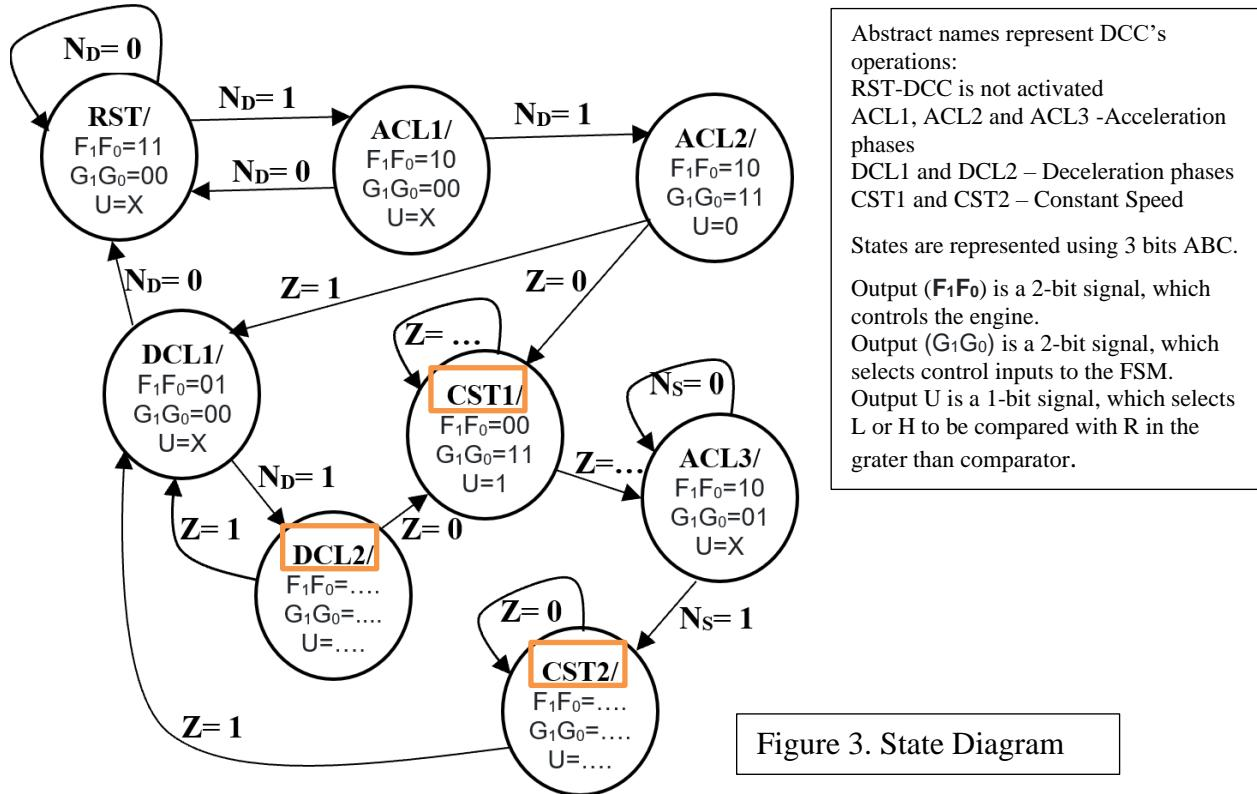

Figure 3. State Diagram
1. [8 points] Fill out the missing information of states DCL2, CST1 and CST2 on the state diagram of figure 3.